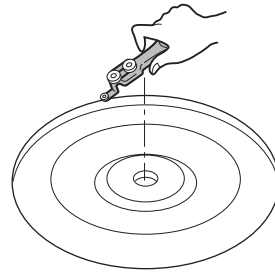

Figure 19
- (1) Remove the glass tray and rotating ring.
- (2) Remove the turntable shaft **VERY CAREFULLY** with a hand. (Figure 19)